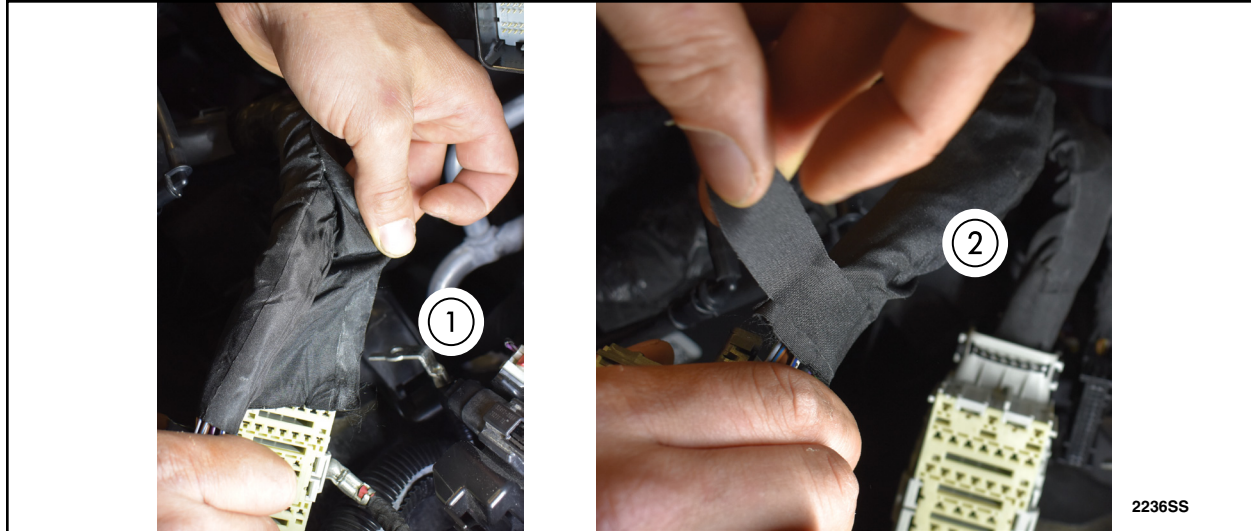

FIGURE 50
59. Put wire covering back into place and secure with new Coroplast tape. See Figure 50.